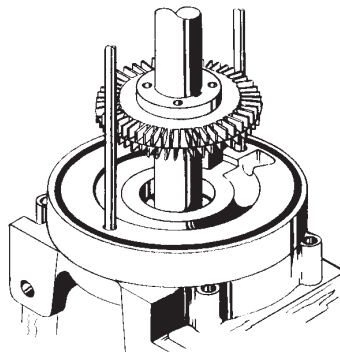

Figure 4-8
9. Slide an impeller (#11) onto the shaft (#17) and over the key (#23) nearest the drive end. (refer to figure 4-8) Place the impeller-shaft assembly into the ring, with